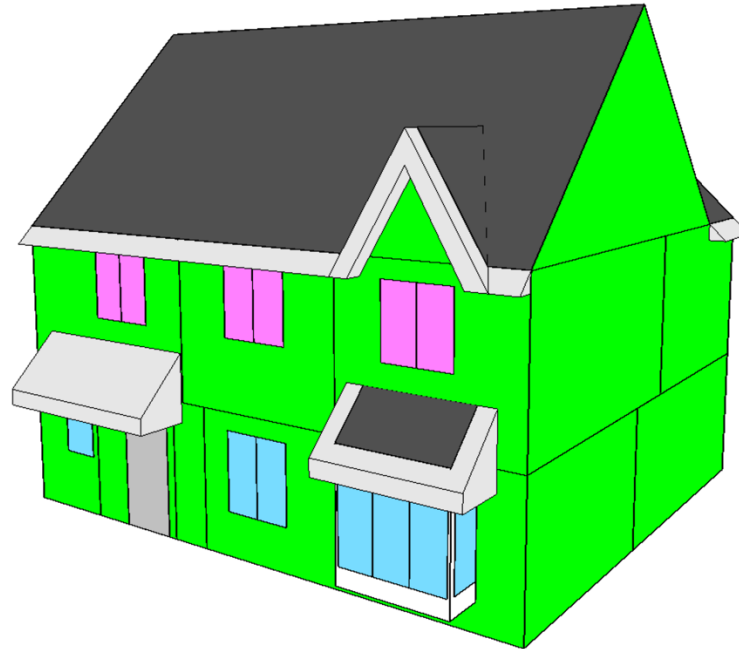

Figure 1: Front elevation showing solar glazing to bedroom windows
9. See Figure 1 for locations for glazing.
What is the overall overheating strategy (i.e. what design features are key to the project passing)?	1. Ensure adequate opening casement for natural ventilation complies with Part F. 2. Ground floor windows open by 70 degrees. 3. Upper floor windows open to a depth of 650mm from inside face of external wall. 4. Upper floor window sills modelled as being 1000mm from finished floor level. If not achieved, then they will need internal guarding to 1000mm from FFL. 5. Bedroom windows modelled closed at night due to external noise issues. 6. Continuous ventilation to achieve up to 0.45 air changes per hour. 7. Window Glazing 'g' value at 0.66. 8. Bedroom & Living/Kitchen window glazing 'g' value = 0.50. 9. See Figure 1 for locations for glazing. 10. Mechanical purge ventilation required to rooms and rates as set out in table 3 at the back of this report. Noise limit for purge fan to be maximum 40 dB.